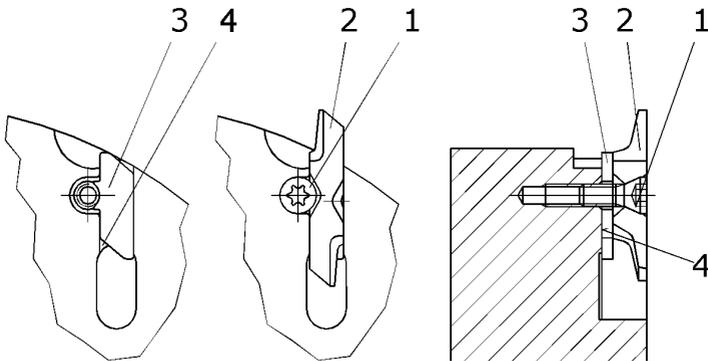

Fig.3
(See Fig. 3)
2. Loosen the screw (1) with the Torx key and completely remove it from the knife seat.
3. Remove the four-corner knife (2) and -if necessary- the shim (3) from the knife seat.
4. Clean the knife seat (4) and all of the components that go with it. Be sure all clamping surfaces are free from dirt, oil, grease and water.
6. Insert precisely the reversed or new four-corner knife (see Fig. 3).